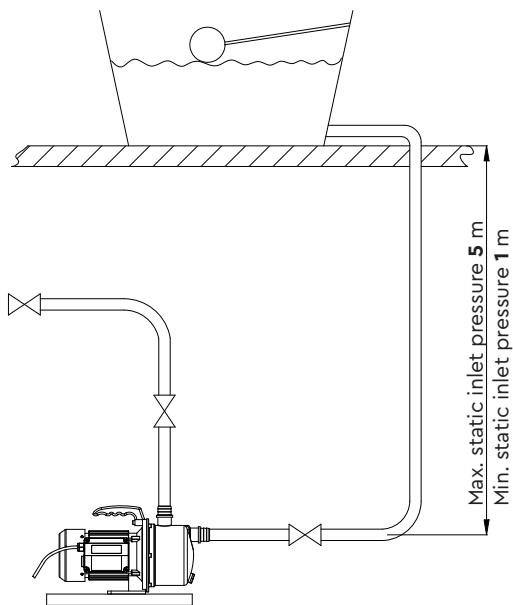

Fig. 2
- 2.16 **Static inlet pressure:** Before deciding where to locate the pump check to ensure the static inlet head (Fig. 2) meets the minimum requirement of 1 metre and does not exceed the maximum requirement of 5 metres.